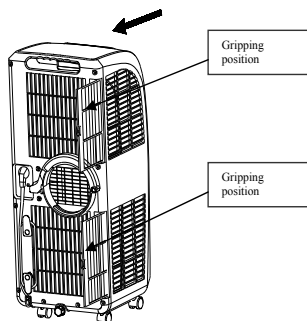

Figure 14
2). Grip the gripping position of the evaporator filter mesh and condenser filter mesh and take out the filter mesh gently in the direction shown by the arrow (as shown in Figure 14).